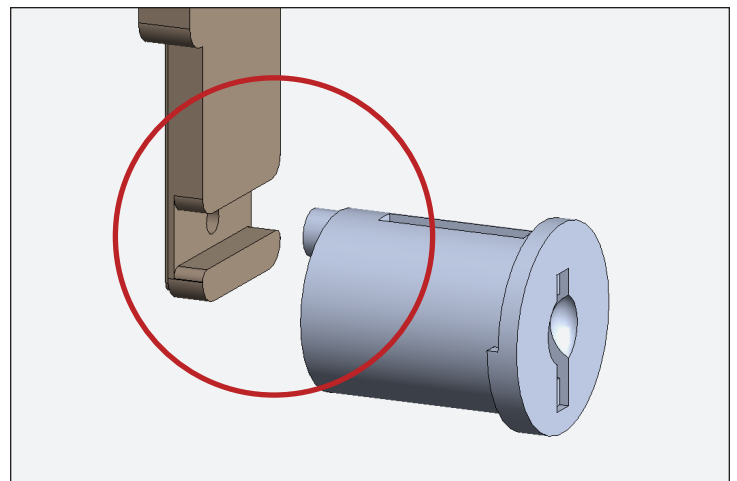

Fig. 3. Cam notch and lock cylinder pin
**NOTICE >** Ensure the lock cylinder pin aligns with the cam bar notch. See fig. 3.